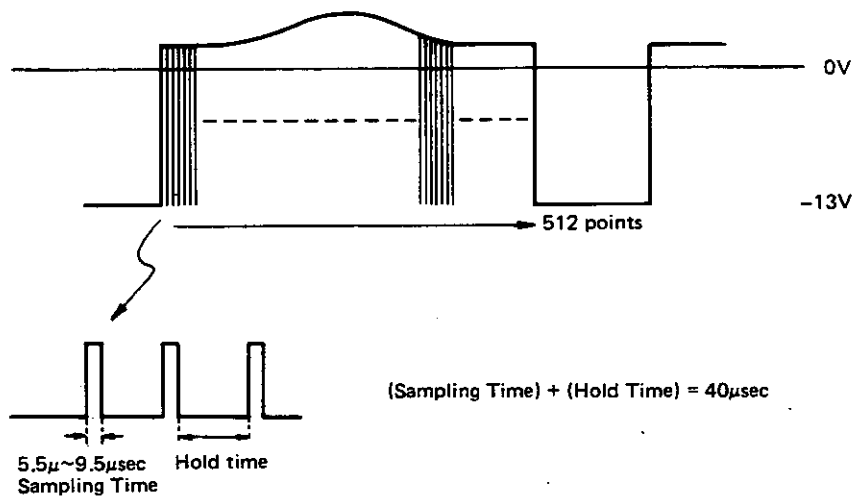

Fig. 6-23 Waveform at TP5
- (4) The signal present at TP5 is used for sampling and hold time check. Check the signal waveform against Fig. 6-23.